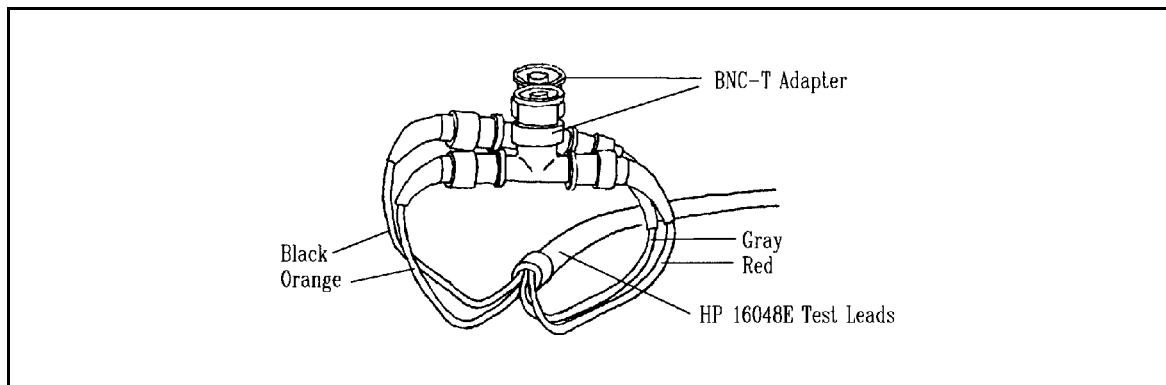

Figure 3-36. Test Leads Connections for OPEN Correction
9. Keep the BNC-T connectors open as shown in Figure 3-36, and select **MEAS OPEN** softkey. The OPEN correction starts immediately.